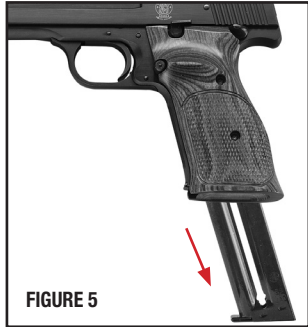

FIGURE 5
- When you inspect your pistol, you should first check for yourself to ensure that it is unloaded. To do this, grasp the pistol with your finger off the trigger and outside the trigger guard, point the pistol in a safe direction, depress the magazine release, and remove the magazine (FIGURE 5).